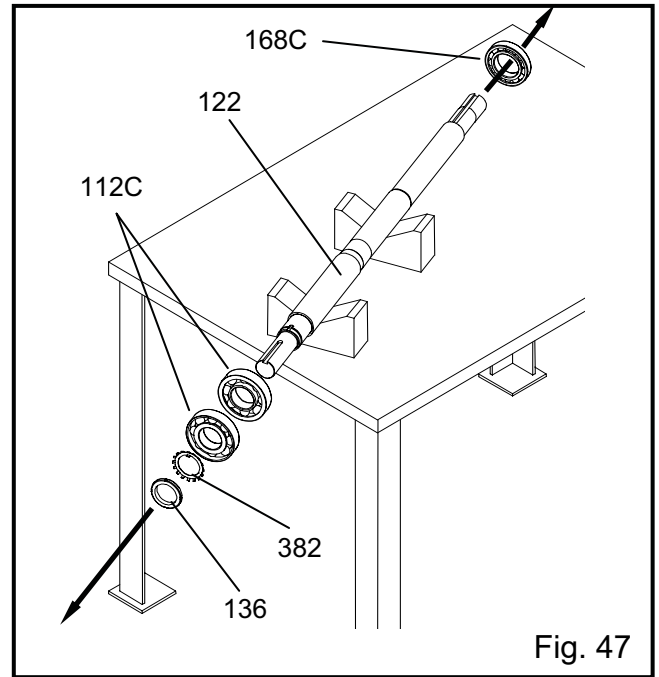

Fig. 47
24. In order to remove the bearings first pry the tangs of the lock-washer (382) from the lock-nut (136). Then, using a spanner wrench remove the lock-nut (136) and lockwasher (382). This thrust bearing configuration consists of two back to back angular contact bearings. Use a bearing puller to remove both thrust bearings (112C). Finally, use a puller to remove the inboard radial bearing (168C) from the opposite end of the shaft. Be careful not to damage the shaft, see Fig. 47.